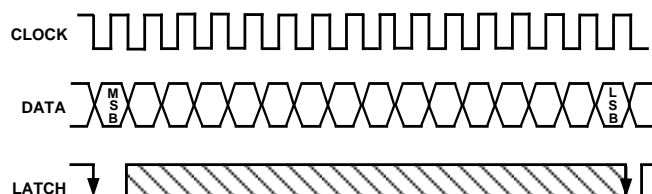
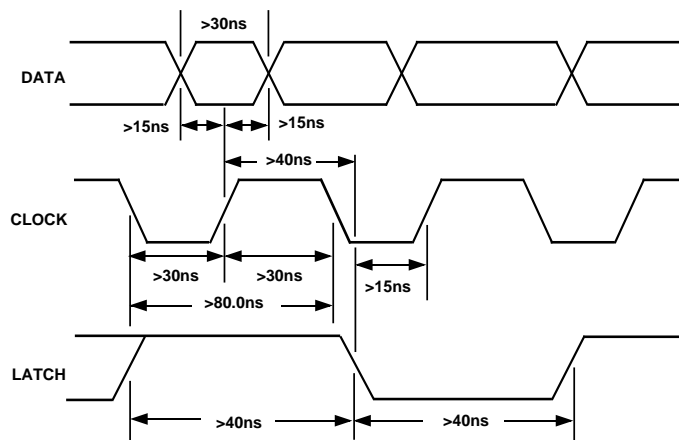

Figure 5. Signal Requirements for AD1851
Figure 6. Timing Relationships of AD1851 Input Signals
Data is transmitted to the AD1851 in a bit stream composed of 16-bit words with a serial, MSB first format. Three signals must be present to achieve proper operation. They are the Data, Clock and Latch Enable (LE) signals. Input data bits are clocked into the input register on the rising edge of the Clock signal. The LSB is clocked in on the 16th clock pulse. When all data bits are loaded, a low-going Latch Enable pulse updates the DAC input. Figure 5 illustrates the general signal requirements for data transfer to the AD1851.
Figure 6 illustrates the specific timing requirements that must be met in order for the data transfer to be accomplished properly. The input pins of the AD1851 are both TTL and 5 V CMOS compatible. The input requirements illustrated in Figures 5 and 6 are compatible with data outputs provided by popular DSP filter chips used in digital audio playback systems. The AD1851 input clock can run at a 12.5 MHz rate. This clock rate will allow data transfer rates for 2 $\times$ , 4 $\times$  or 8 $\times$  or 16 $\times$  oversampling reconstructions.